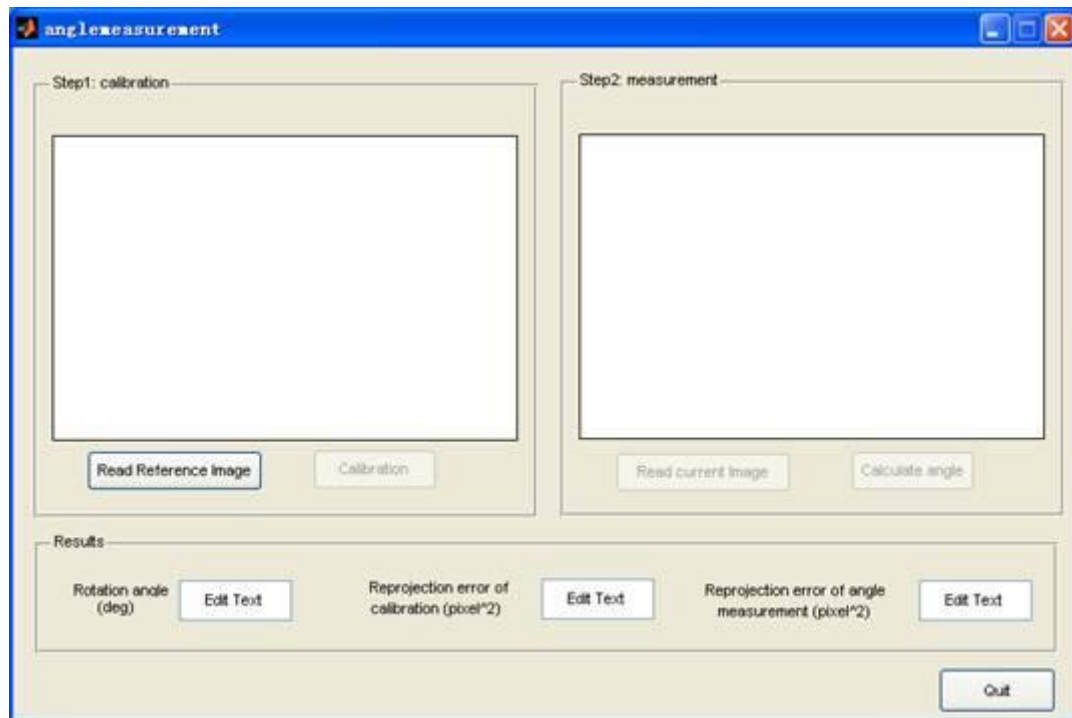

Fig. 1 The main interface of this angle measurement toolbox.
1. Run "anglemeasurement.m". The main interface of this toolbox is shown in Fig. 1.